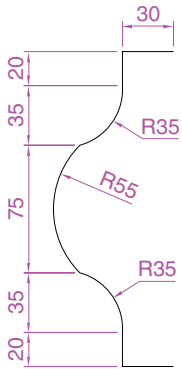

Fig. 5.7 First example – **Mirror** – outline
1. Construct the outline in Fig. 5.7 using **Line** and **Arc** tools.